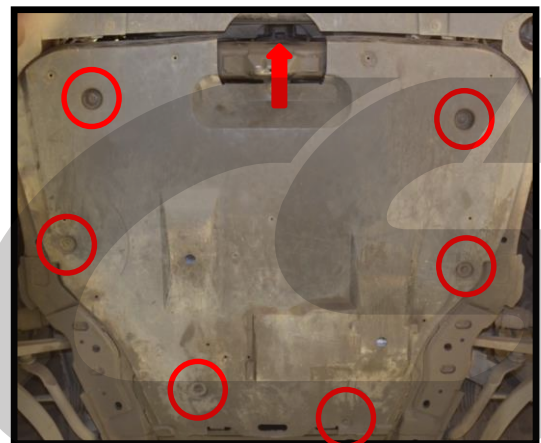

Figure 6c
- d) Remove the six 10mm bolts holding the engine undertray. **Red circles in Figure 6c.** Remove the engine undertray.
- e) Drain approximately 1 gallon from the coolant system. The drain is centered on the bottom of the radiator. See the **red arrow in Figure 6c.**